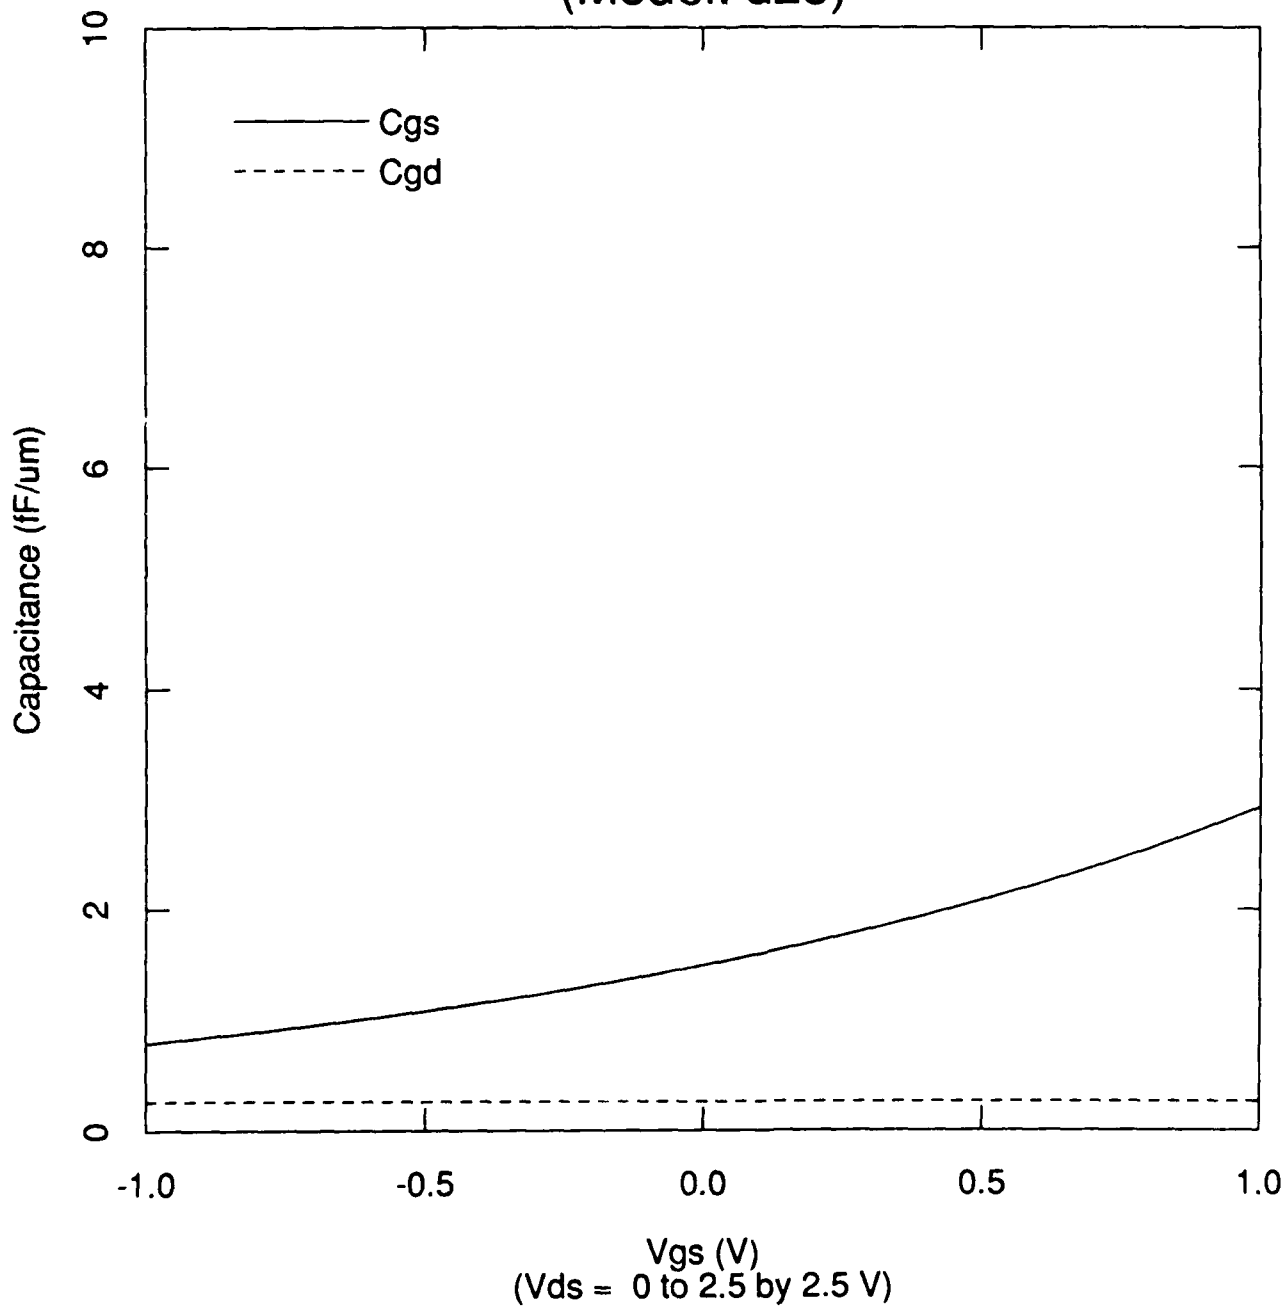

Figure 8. C_{gd} and C_{gs} vs. V_{gs} (V_{ds} stepped) for d25 DHFET Simulation at 25C.
- Figure 8. C_{gd} and C_{gs} vs. V_{gs} (V_{ds} stepped) for d25 DHFET Simulation at 25C.